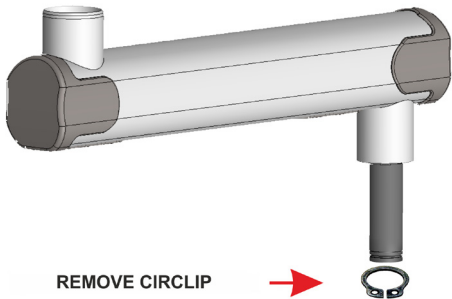

Figure 20
- Remove the circlip fixed to the straight-arm guide rod using circlip pliers as shown in Figure 20 .